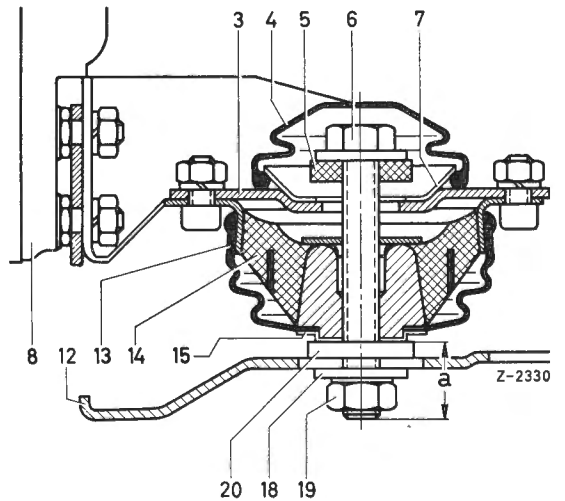

Fig. 24-1/4
9. Fasten the support (12) to the chassis base panel, noting carefully the position marked on the chassis base panel and on the engine support.
10. Lower the engine. On Models 220 SEb and 300 SE Convertible and on Model 230 SL install the washer (18) and the lock washer, then tighten the hexagon nut (19) (Fig. 24-1/3 or 24-1/4).
11. In order to adjust the limit stop on Sedans and Coupés properly screw in the hexagon screw (6) until the distance "a" is obtained. Measure the distance "a" with a depth gage between the hexagon screw (6) and the support (12) (Fig. 24-1/2 and Job No. 22/24-0). Then install the spring washer and screw on the hexagon nut (16). When tightening the hexagon nut make sure that the hexagon screw (6) does not turn. When the limit stop is adjusted correctly, the beveled edge of the hexagon screw (6) projects beyond the hexagon nut (16) appr. 1 mm (Fig. 24-1/2).
12. Install the bellows (4) on the rear engine suspension (Fig. 24-1/2).